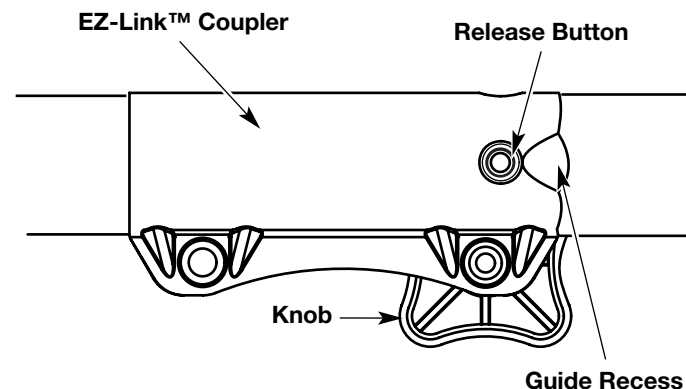

Fig. 24
1. Turn the knob counterclockwise to loosen (Fig. 24).
2. Press and hold the release button (Fig. 24).
1. Turn knob counterclockwise to loosen (Fig. 24).
**NOTE:** Aligning the release button with the guide recess will help installation (Fig. 24).
3. Turn the knob clockwise to tighten (Fig. 24).